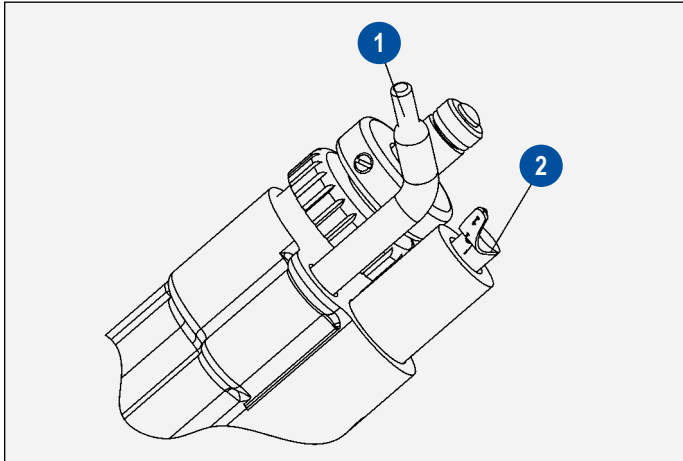

Figure 6: Initial Position of Feed Tube and Brush
1. Install the proper feed tube into the opening in the applicator. See figure 6. Position the tube approximately as shown in the figure.
2. Insert the 3695-00 (item 2) brush into the barrel. Position it as shown in figure 6.
INITIAL POSITION OF FEED TUBE AND BRUSH (Figure 6)